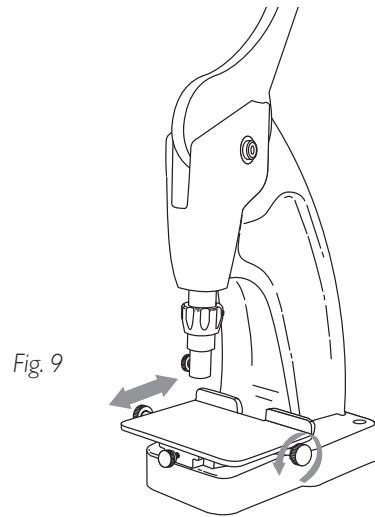

Fig. 9
- To reposition table plate, loosen the table handle by rotating it counter-clockwise. Fig. 9